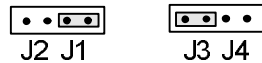

Fig.6 Input/output module jumper position J1
- The jumper on the input/output module must be plugged onto J1/J3 (Fig. 6).